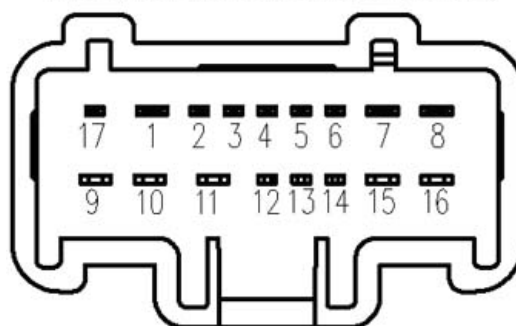

Fig. 4-84
3. Check left combination switch (light control) as shown in Fig. 4-84 and Fig. 4-85.